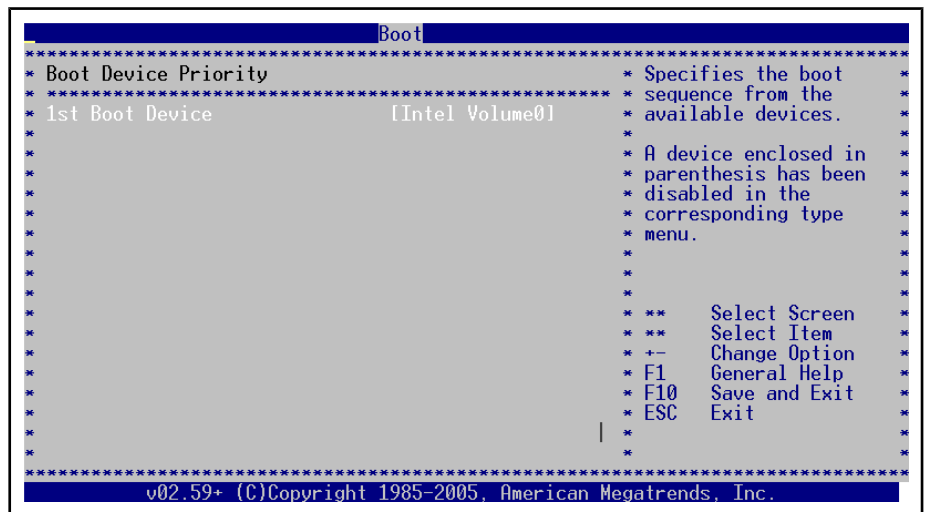

Fig.9-21: Select the boot priority
6. Select under "Boot Priority Selection" the "Device Based" value, see fig. 9-21 "Select the boot priority" on page 83.